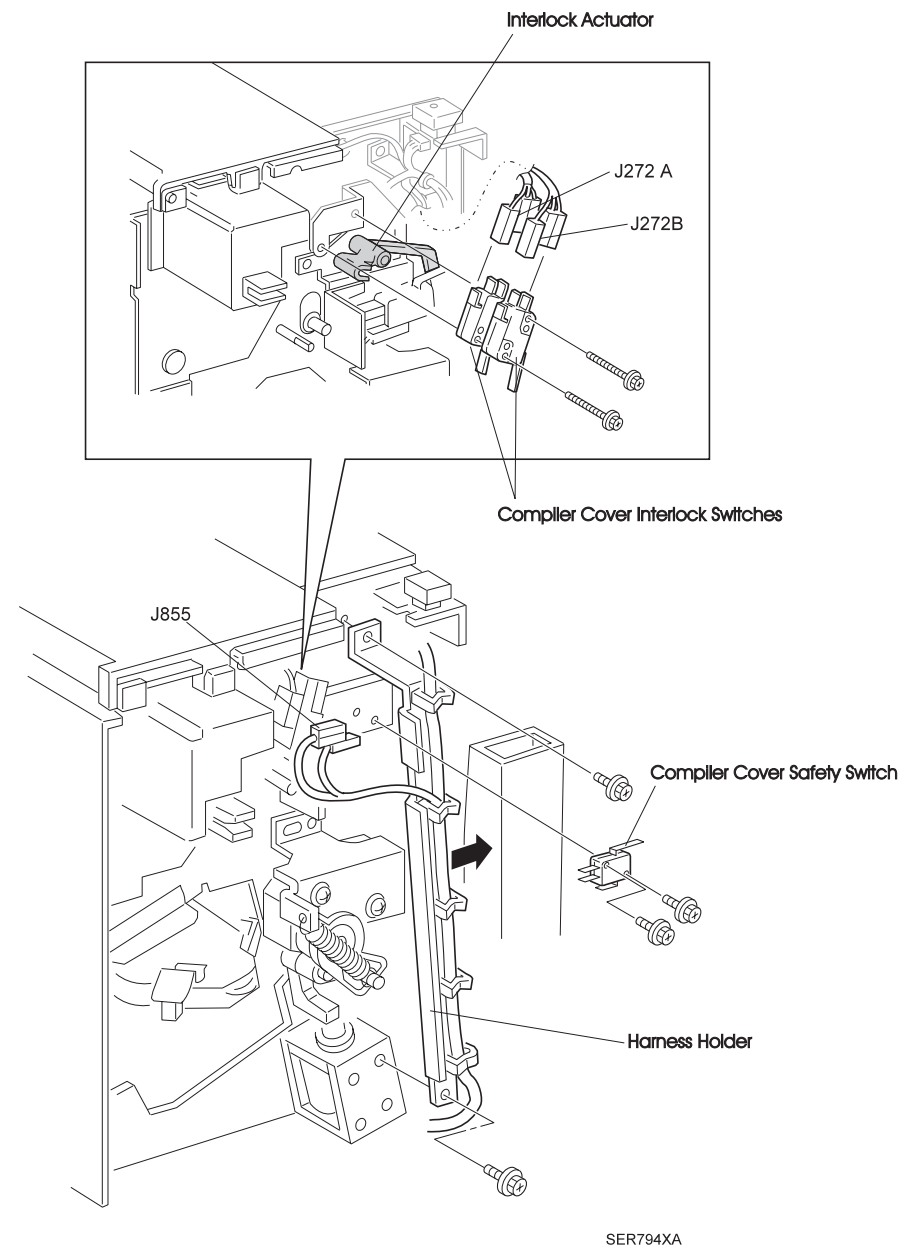

Figure 3-73. Compiler Cover and Safety Interlock Switches
1. Place two Compiler Cover Interlock Switches as shown in the Figure 3-73.